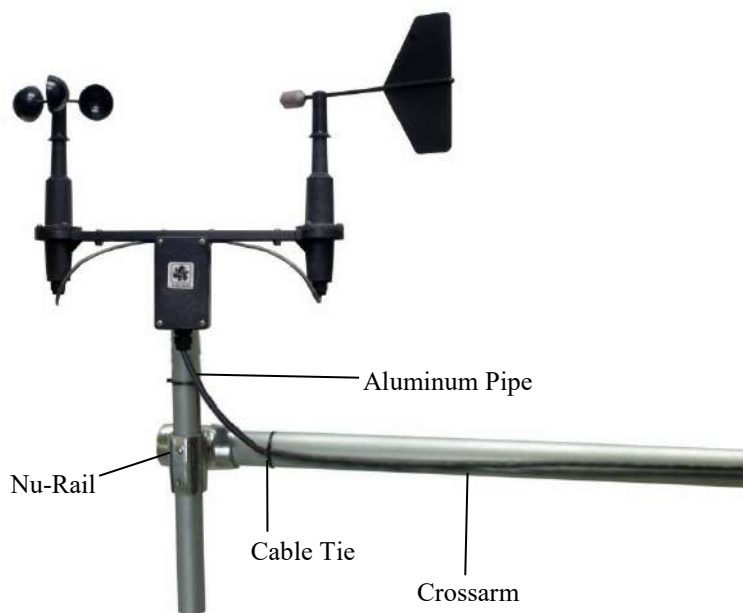

FIGURE 7-3. 03002 mounted to a crossarm with 1 x 1 inch Nu-Rail fitting
- 1 x 1 inch Nu-Rail Crossover Fitting (FIGURE 7-3)